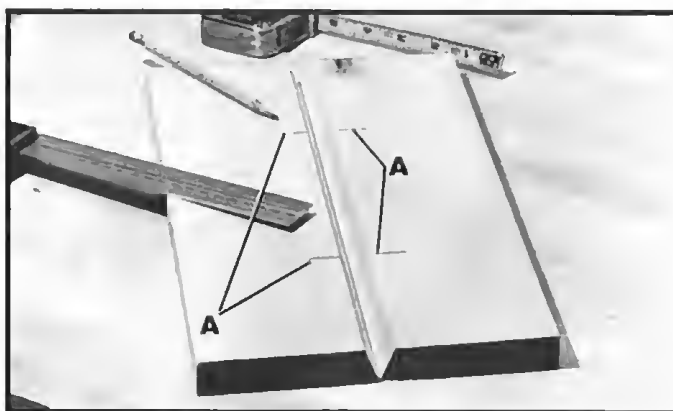

Fig. 36
1. Mark the two boards to be bevel edge joined together at the points where the biscuits are to be placed, as shown at (A) Fig. 36. These marks indicate the center of the biscuit cut and should be on the opposite surface of the boards you want perfectly matched.